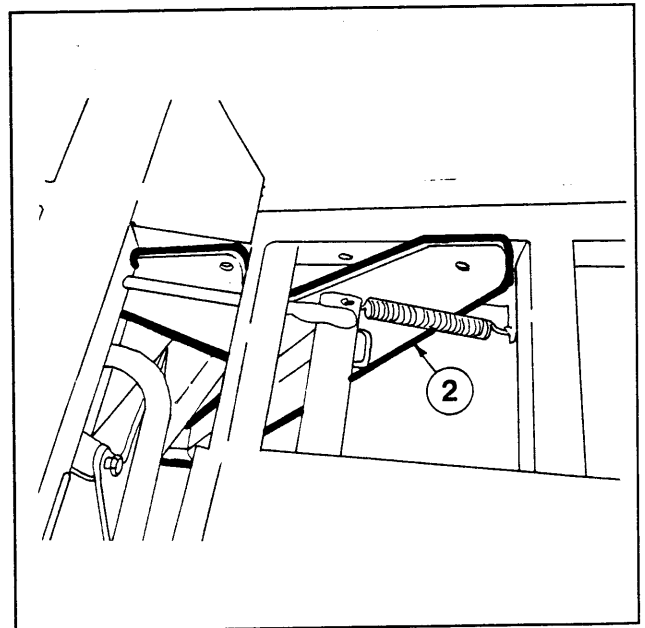

Figure 2
7. Take the left, front bracket support (2) and position it as shown in figures 2,3. Take one of the front bracket support anchors (3) and position it on top of the front axle, in-line with the bracket support. Loosely bolt the anchor to the support using the 1/2"x6" hex bolts, hex nuts, and lockwashers provided. (see figures 2,3)